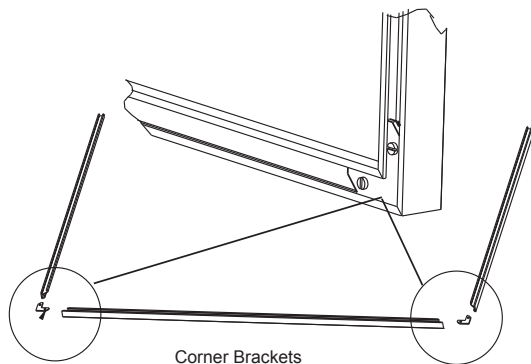

Figure 19.2
4. Using a standard flat screw driver tighten the corner brackets (**Figure 19.2**).